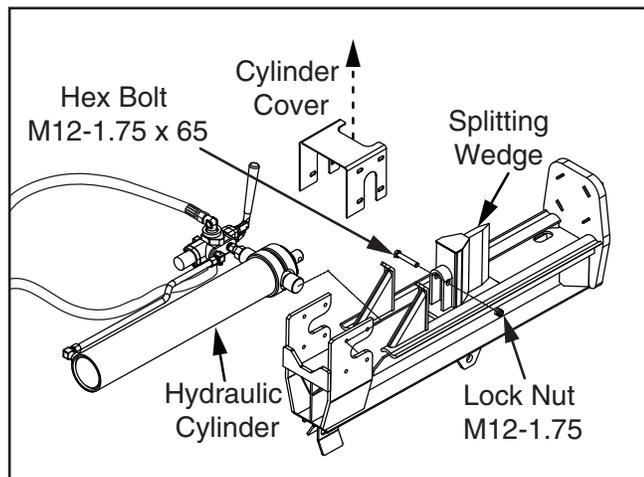

Figure 14. Attaching hydraulic cylinder to splitting wedge.
8. Remove cylinder cover, then attach hydraulic cylinder to splitting wedge with pre-installed (1) M12-1.75 x 65 hex bolt and (1) M12-1.75 lock nut (see **Figure 14**).